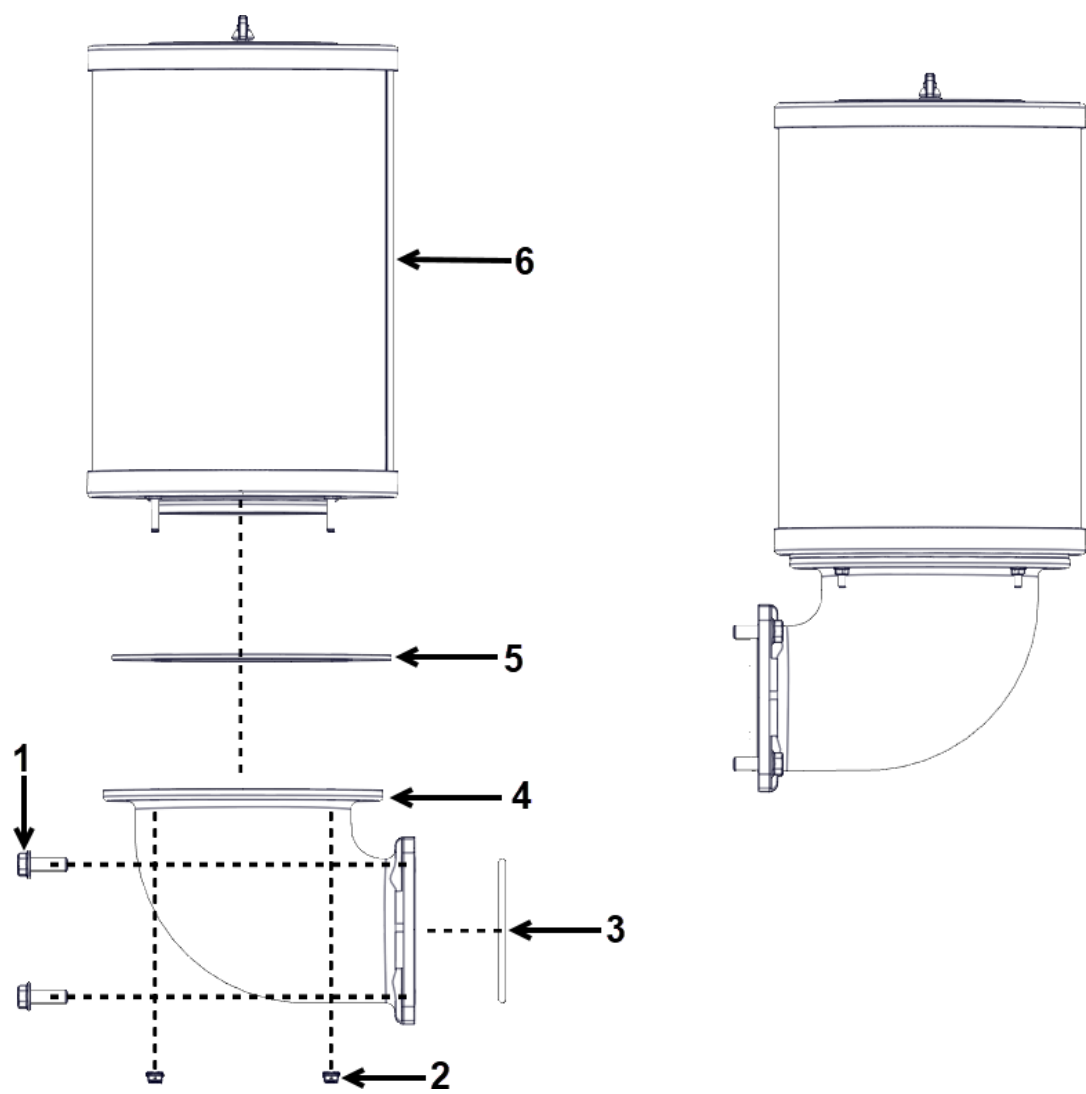

Figure 37. Air Filter Assembly
1. Remove the four bolts (Figure 37, Item 1) from the elbow (Figure 37, Item 4).
2. Remove the elbow (Figure 37, Item 4), then remove the O-ring (Figure 37, Item 3).
3. Remove the four nuts (Figure 37, Item 2).
4. Remove the air filter (Figure 37, Item 6), then remove the gasket (Figure 37, Item 5).
1. Place a new O-ring (Figure 37, Item 3) onto the nozzle.
2. Place the elbow (Figure 37, Item 4) onto the O-ring and nozzle and torque down the four bolts (Figure 37, Item 1).
3. Place a new gasket (Figure 37, Item 5) onto the elbow and place the air filter (Figure 37, Item 6) onto the gasket.
4. Insert and torque down the four nuts (Figure 37, Item 2).